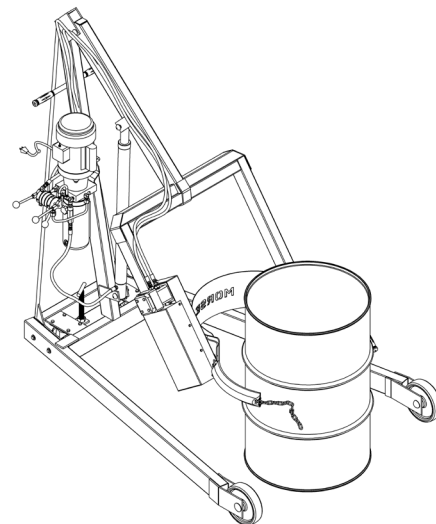

Figure 3.1
The screw-down floor lock is located on the base of the tower (Figure 3.1). Turning the floor lock clockwise until it locks in the down position activates the floor lock. When the floor lock is activated it prevents unwanted free wheeling of the unit. Floor conditions determine the effectiveness of the floor lock. The operator should verify its holding action before depending on it to hold.
2. Using the "LIFT" control as described in "Machine Description - Controls" position the drum holder assembly with the back band at the middle of the drum (Figure 3.1). With the ratchet plate swung open and the cinch chain hanging from the chain hook, push the unit until the back band rests firmly against the drum. Some adjustment to the tilt angle of the saddle may be necessary to ensure band fits flush on the drum.